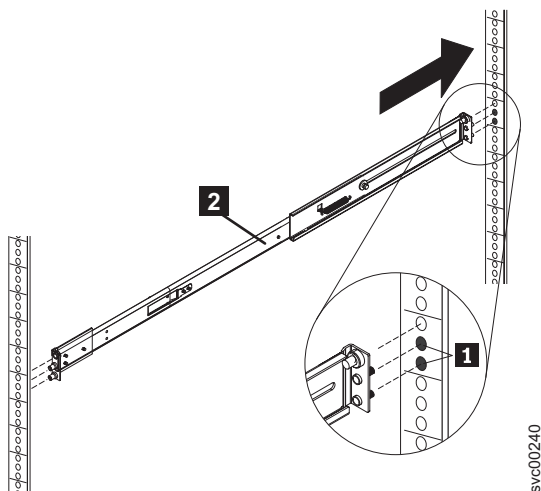

Figure 60. Inserting the right slide rail into the rear rack mounting flange
3. Insert the right slide rail **2** into the rear rack mounting flange, as shown in Figure 60, with the rail pins **1** protruding through the flange.